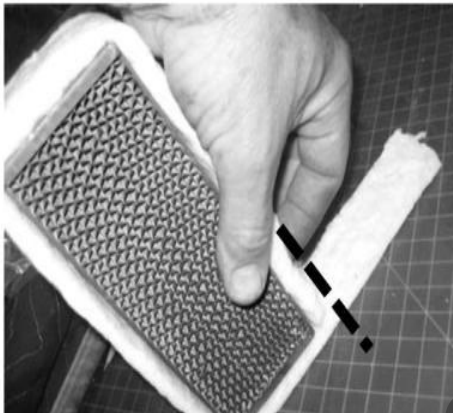

Figure 21 - Installing Gasket on Catalyst
9. Some warping or bowing of the catalyts over time is acceptable, as long as the catalyts gasket continues to seal. Measure the catalyts in the middle section – if the dimensions are outside the range shown in Figure 21 above, replace the catalyts.